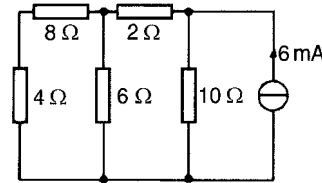

Figure 13.63
- 3 Determine the current flowing in the 6 Ω resistance of the network shown in Fig. 13.63 by using Norton’s theorem. [2.5 mA]